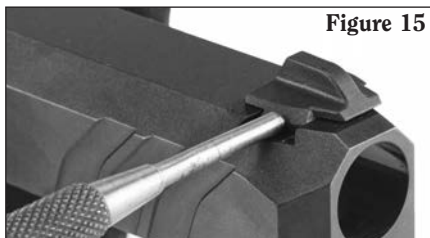

Figure 15
2. Place the punch against the wide base of the front sight and gently tap the punch to move the sight sideways and off the slide (see Figure 15).